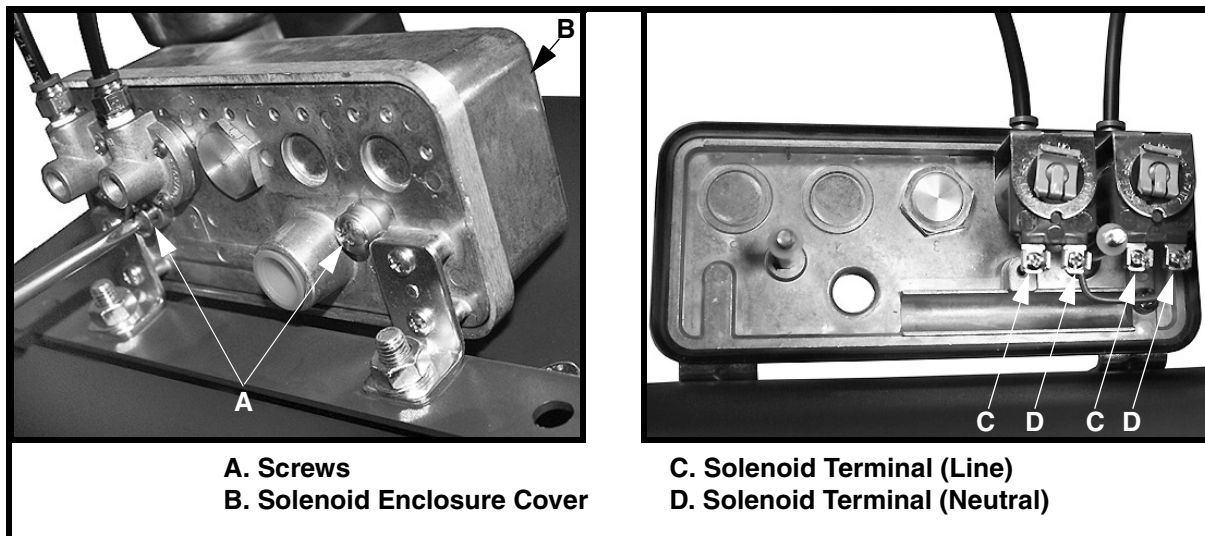

Figure 6. Solenoid Enclosure
6. Reinstall solenoid enclosure cover (B, Figure 6).